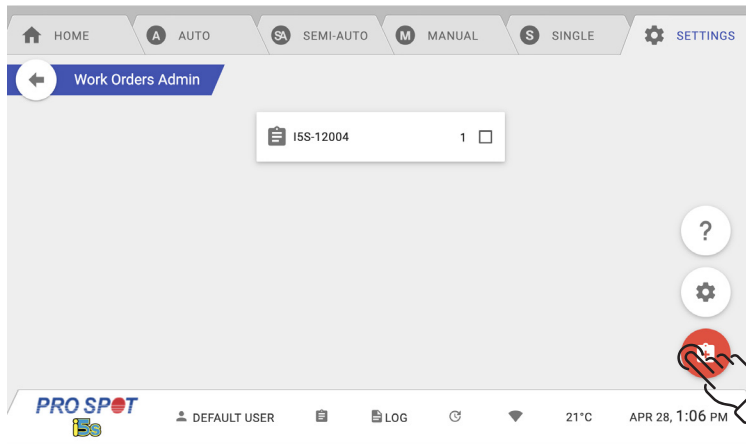

Figure 4.23
2. To create a new work order, select Add New Work Order. This is the red button with a plus sign (Figure 4.23).